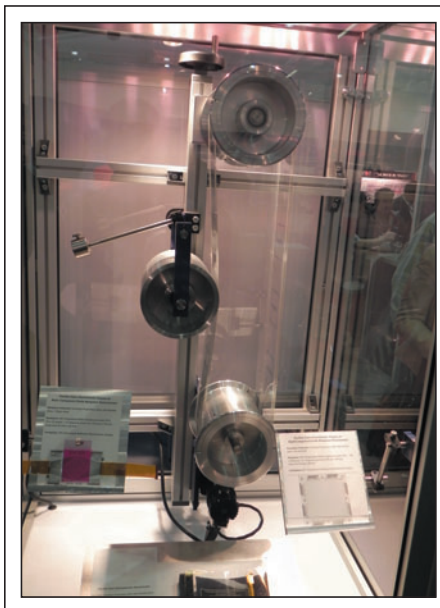

Fig. 1: Corning's 0.1-mm-thick glass is so flexible that it can be moved in a continuous loop around rollers. Photo courtesy of Alfred Poor.
0.1-mm-thick glass in their DisplayWeek exhibits (Fig. 1). While this glass has potential for several display technologies (such as serving as an encapsulation layer for OLED panels), it could have a particularly big impact on LCDs. It could eliminate a lot of weight, for example, which has advantages when multiplied times millions of units. And it could help lower production costs by increasing efficiency.